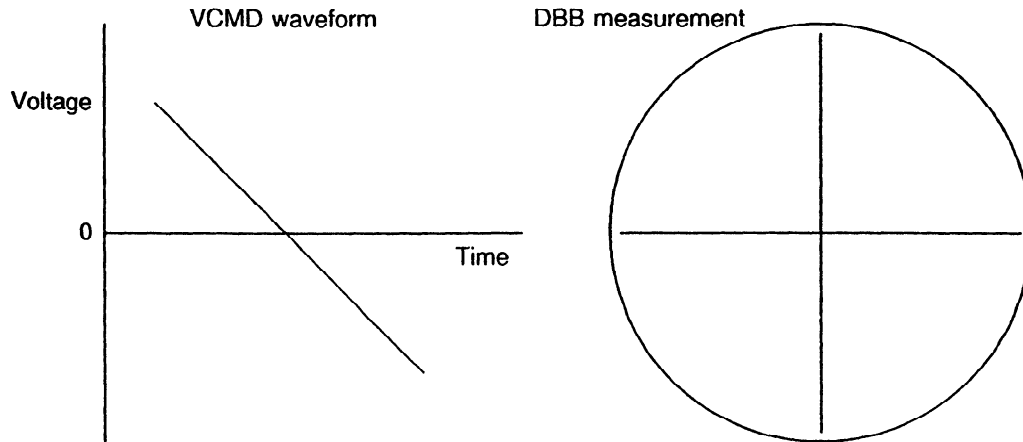

Fig. 2.5.2 (b) VCMD Waveform and DBB Measurement 2
- If the result of the measurement is like Fig. 2.5.2 (a) → (Step 3)
- If the result of the measurement is like Fig. 2.5.2 (b) adjustment is complete.